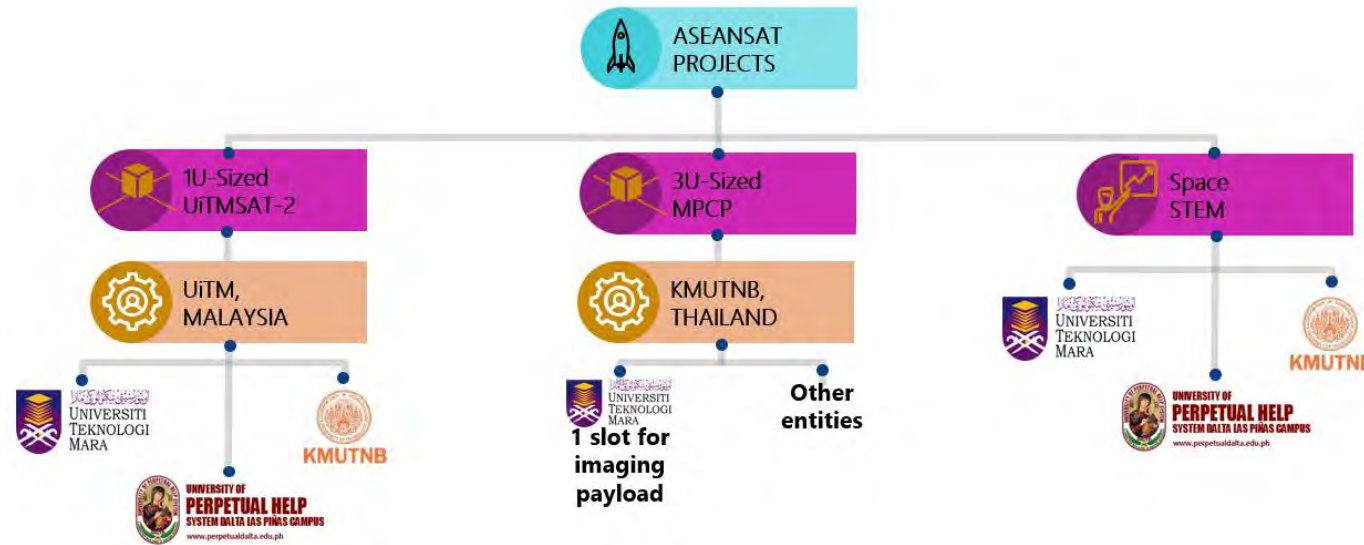

Fig. 1: ASEANSAT Collaboration Project.
Under the ASEANSAT Projects, there are three (3) sub-projects as illustrated in Fig. 1.